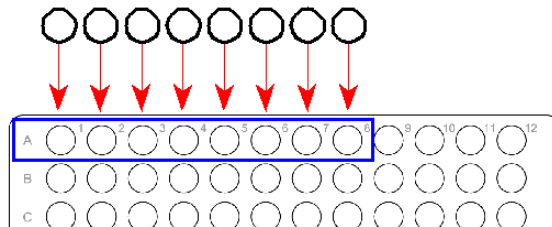

Figure 6 Addition Ligation Master Mix
6. Use a multi-channel P20 pipette to add 5.25 μL of the Ligation Master Mix to each digested sample (Figure 6).